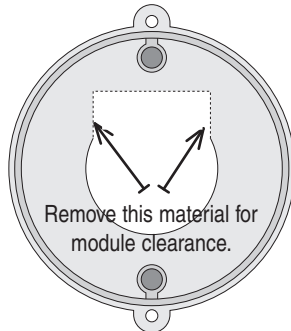

Figure 2
- Comp 9000 Distributors Only: Modify cap adapter to clear Ignitor (See Figure 2).